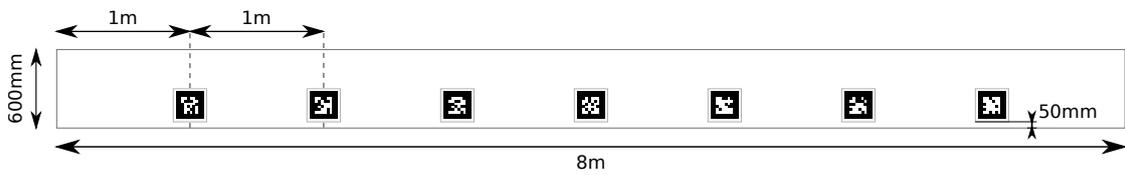

Figure 6: Seven 250mm wide markers are spaced evenly along each 8m arena wall. The markers are placed 50mm above the floor.
- 3.3.7 Each wall of the arena features seven  $250mm$  libkoki markers. Figure 6 shows the positioning of these markers, whilst figure 5 shows the numbering of these markers.